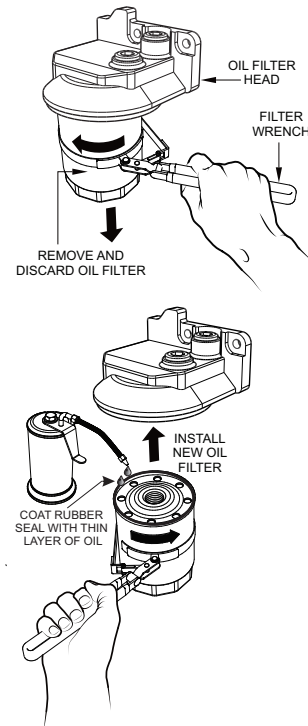

Figure 75. Engine Oil Filter Removal
1. Using an oil filter wrench (Figure 75), remove the engine oil filter.
3. Coat the rubber seal (gasket) surface of the new oil filter (Figure 75) with clean 15W-40 engine oil.